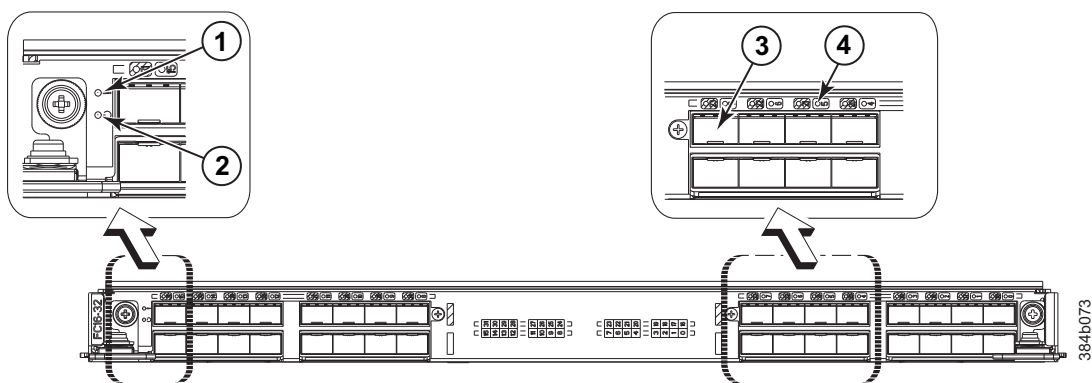

Figure 21. FC16-32 port blade
- Figure 21 illustrates the FC16-32 port blade